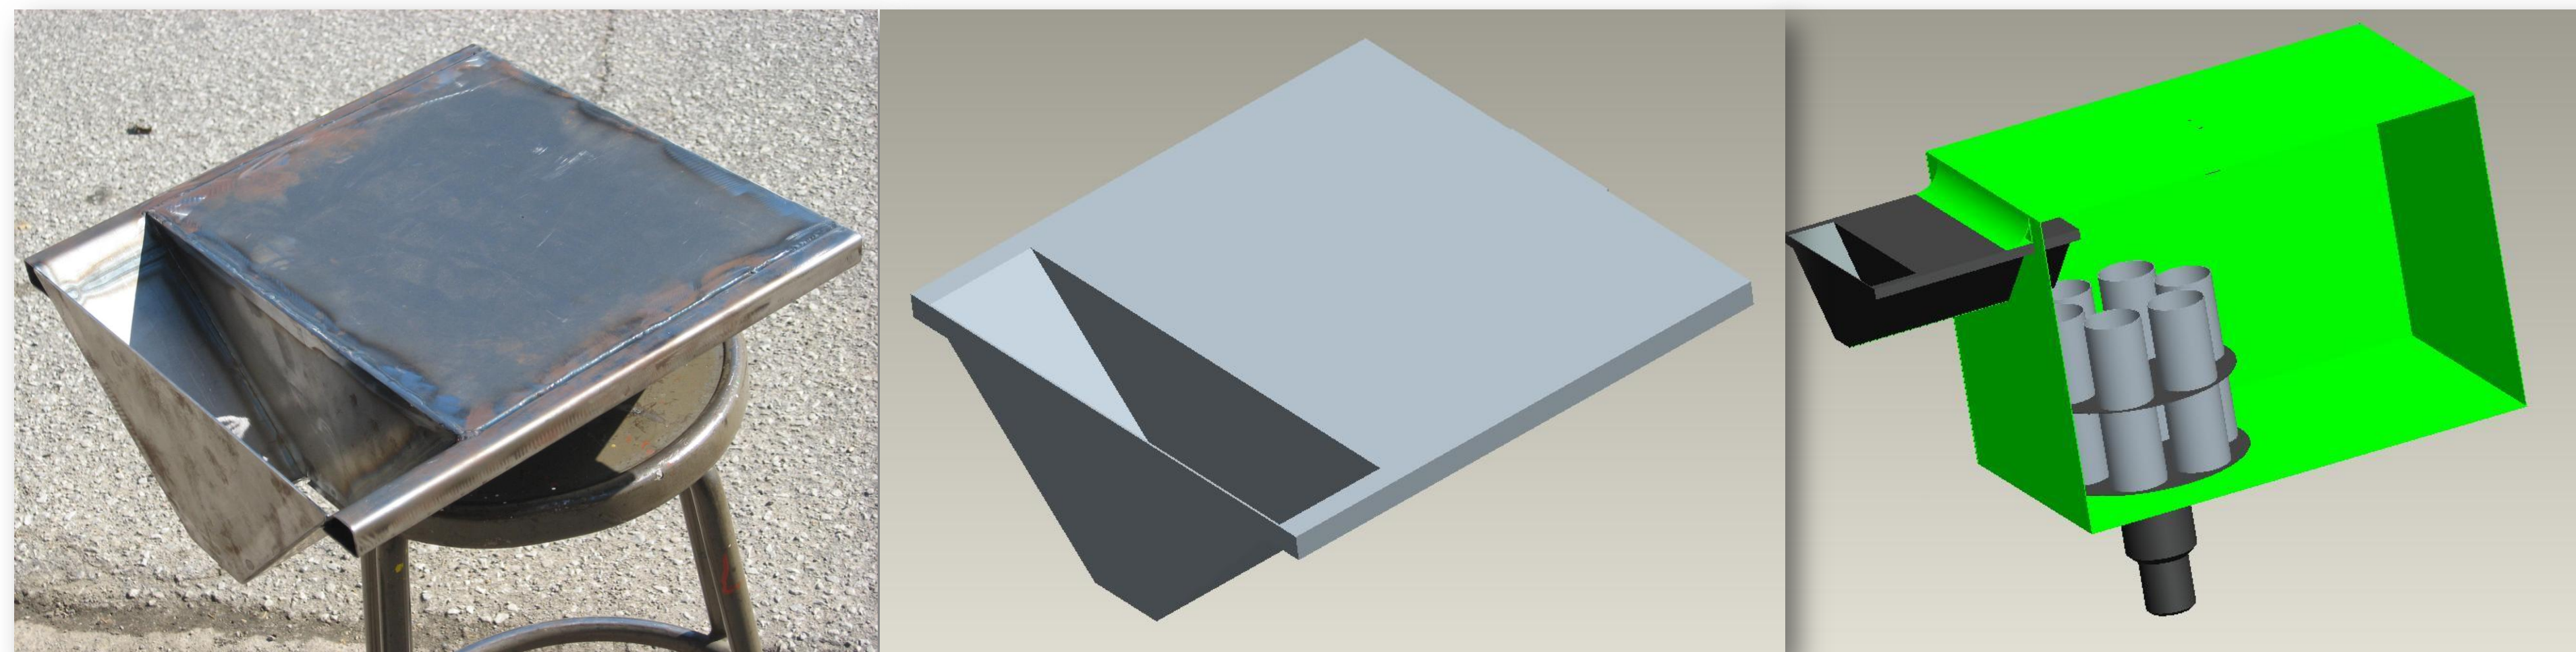

Figure 5 Detail of sample collection drawer, CAD compared to machined part
The objective is sampling the extent of grain damage sustained by crops while travelling through John Deere (JD) developmental combines. The project plan is to create a system that will sample the crop in the grain tank of combines. The system will be set up to sample the grain leaving the fountain auger. It will be caught by a drawer style collection divide (Fig 5) and then transported to a revolving style sample holding compartment (Fig 7). The system will take six samples from the fountain auger flow; the samples can then be removed and tested for damage.
Once the Drawer Sampling System was finalized, it was drawn in ProE. Many modifications were made to the final design after testing was done on the prototype in ProE. See Figure 2. The prototype was created in the ABE machine shop by group members. Certain tooling and fabricating was contracted out to the Purdue Central Machine Shop. Modeling and analysis for the prototype was completed with computer software such as ProE and Excel. The CAD visualizations in Figure 4 show the sample containers as well as the alternative to Figure 5 the design that became our final solution.